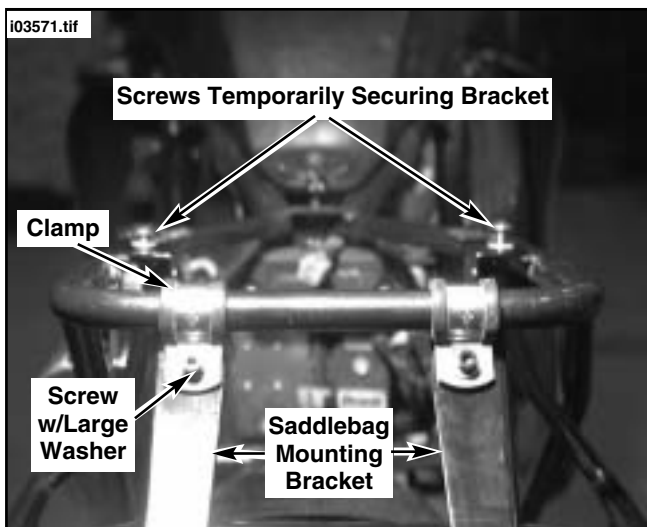

Figure 3. Install Clamps To Secure Mounting Bracket to Frame (Rear View)
- c. See Figure 3. Obtain two of the screws used to secure the tail section to frame (removed in Step 4), and temporarily secure (partially thread screws) the front portion of the saddlebag bracket to the frame as shown. This will keep the mounting bracket aligned during installation.